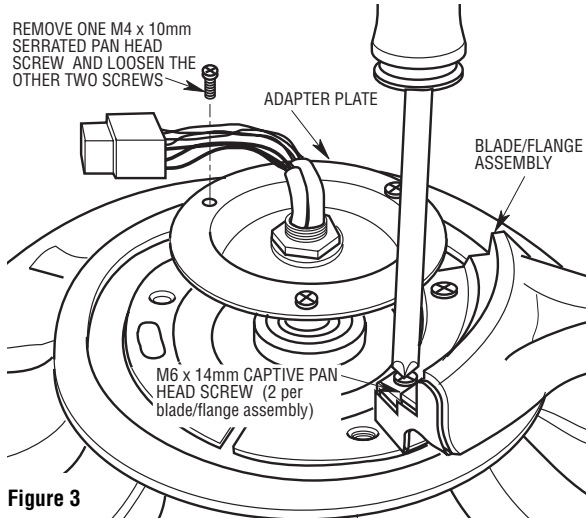

Figure 3
- 3. Loosely attach one blade/flange assembly to the motor hub by securing the two M6 x 14mm captive pan head screws. Make sure the screws are NOT tightened (Figure 3). Repeat this procedure for other four blade assemblies.
- 5. Remove and retain one of the three M4 x 10 mm serrated pan head screws from the adapter plate (Figure 3). Loosen the other two serrated head screws, three or four turns.